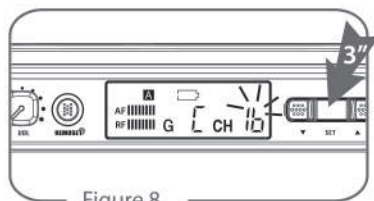

Figure 8
- (1) Press "Set" button 5 for 3 seconds, the group (G) in the "Group & Channel" area will flash. (Figure 8)
- (2) Press "▲Up" 3 or "▼Down" 4 button to select a desired group
- (3) Press "Set" again and the Channel (CH) in the "Group & Channel" area will flash.
- (4) Press "▲Up" or "▼Down" button to select a desired channel.
- (5) After setting, press "Set" again to save the settings.